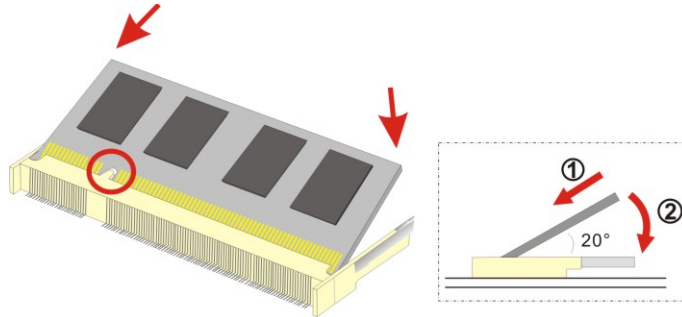

Figure 4-1: SO-DIMM Installation
To install an SO-DIMM, please follow the steps below and refer to Figure 4-1.
- Step 3:** **Insert the SO-DIMM.** Push the memory in at a 20° angle. (See **Figure 4-1**)
- Step 4:** **Seat the SO-DIMM.** Gently push downwards and the arms clip into place. (See **Figure 4-1**)